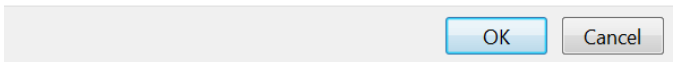

Fig. 8: WattBox access point WiFi network password
- 3) When prompted for a password, please enter **GoElectric**. The authentication protocol is WPA2 (Fig. 8).